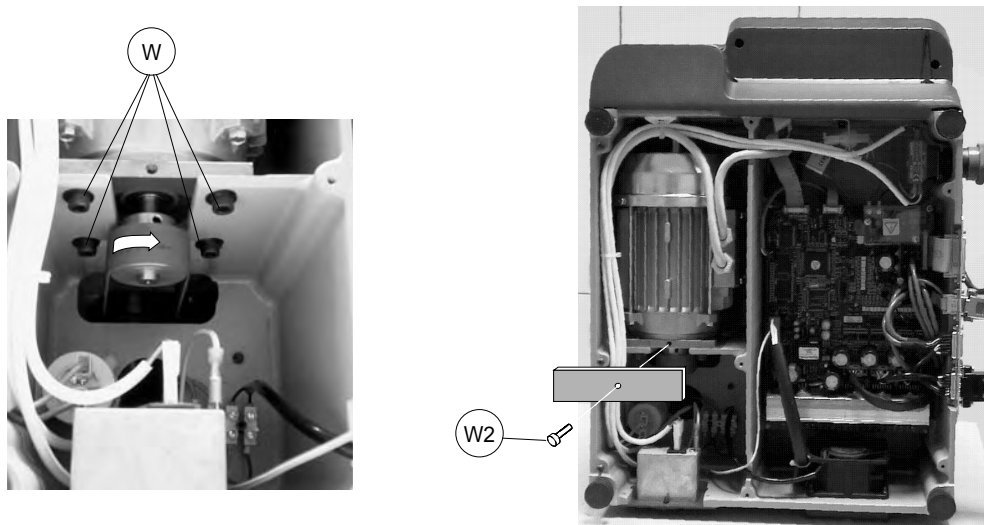

Fig. 37
- 4) loosen the 4 screws (W) securing the motor (fig. 37).
- 7) using the provided belt tension plate and the (W2) screw (fig. 37) adjust the belt's tension by turning the (W2) screw.
- 8) tighten the 4 (W) (fig. 37) screws back into place, securing the motor.
- 3) loosen the 4 screws (W) securing the motor (fig. 37).
- 4) using the provided belt tension plate and the (W2) screw (fig. 37) adjust the belt's tension by turning the (W2) screw.
- 5) tighten the 4 (W) (fig. 37) screws back into place, securing the motor.